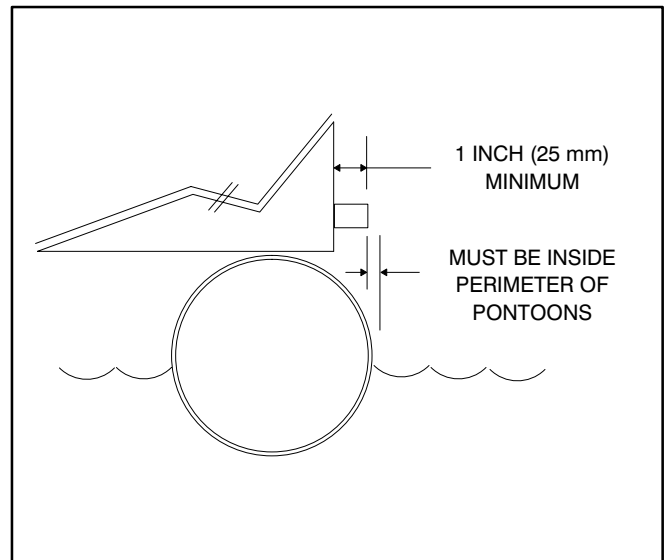

FIGURE 7. TERMINATING THE EXHAUST TAILPIPE
5. Do not terminate the tailpipe underneath the boat. Extend it a minimum of 1 inch (25 mm) beyond the perimeter of the boat deck (Figure 7) but inside the perimeter of the pontoons, for protection against damage from piers and other boats.